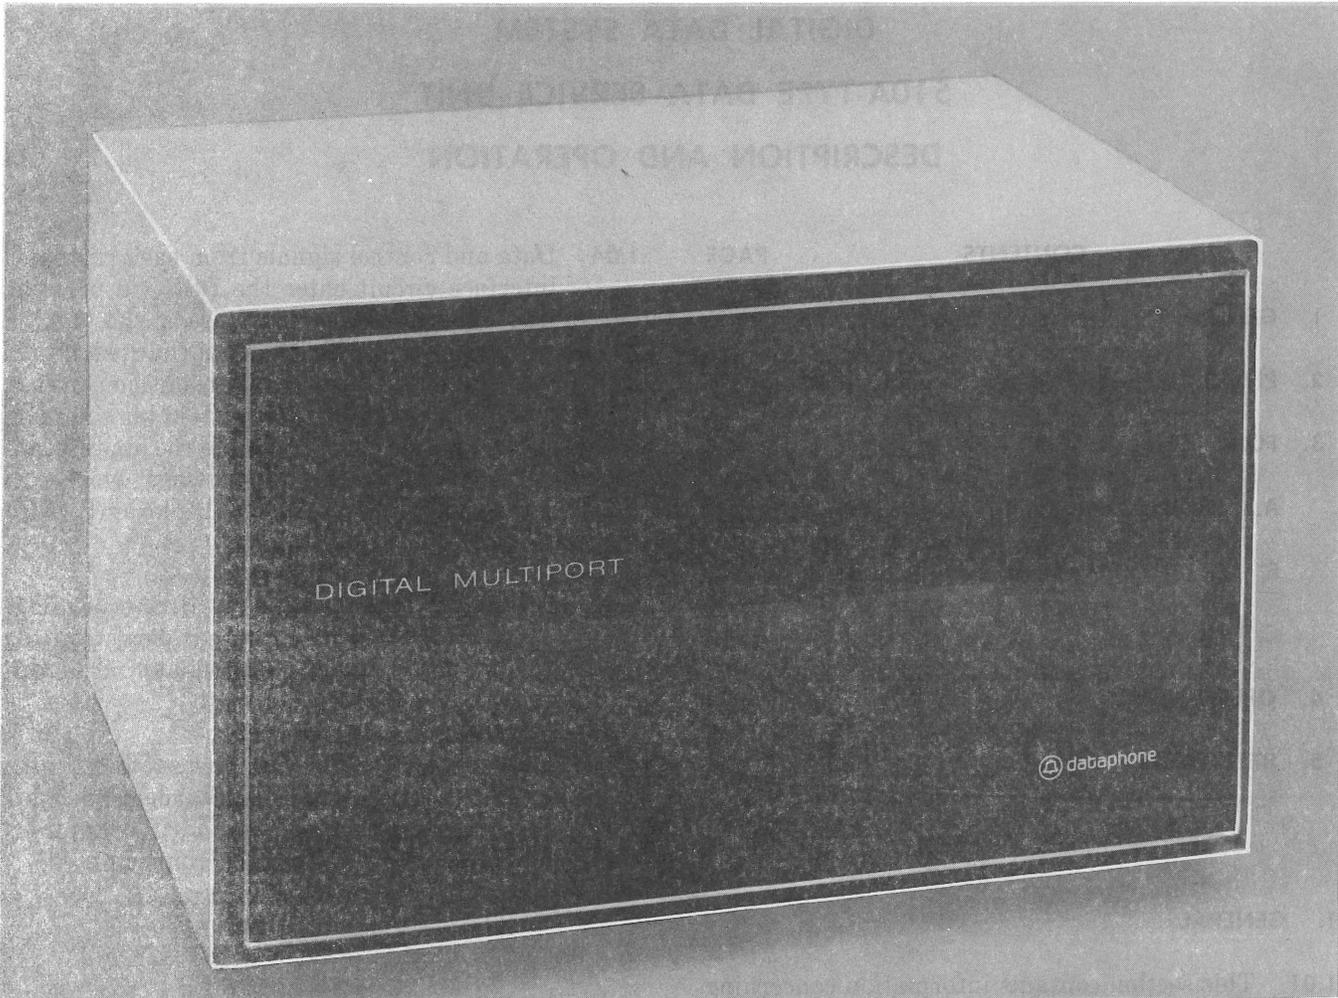

Fig. 1—Front View of a 510A DSU Mounted in a KS-20018-L19 Cabinet (510A-L1/2)
**1.03** The 510A DSU (Fig. 1) is digital data system (DDS) customer station apparatus designed for transmission and reception of digital data over local transmission facilities. It provides, within a single unit, data transmission and network control functions equivalent to those provided by up to nineteen 500A-type DSUs. (Refer to Section 595-200-100 for information on the 500A-type DSU.)